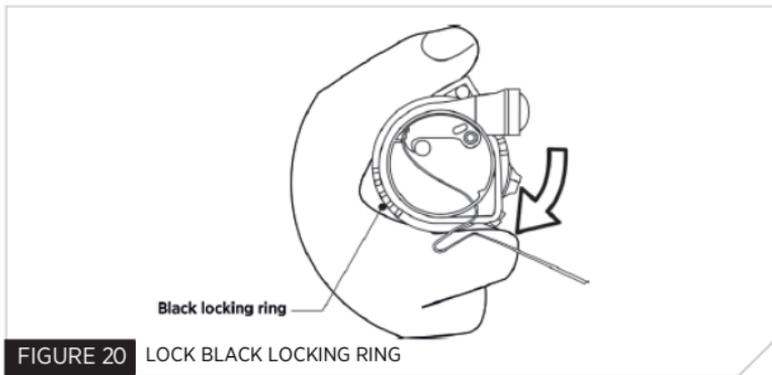

FIGURE 20 LOCK BLACK LOCKING RING
8. While pressing **FIRMLY** onto the inflator body, turn the **BLACK** locking ring clockwise into the locked position (Fig. 20). Pull on the cap to make sure it has locked onto the inflator body.